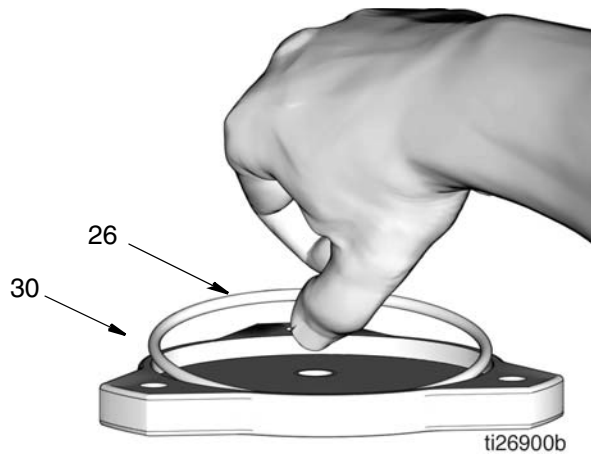

FIG. 59
12. Apply a thin layer of grease to o-ring (26). Install o-ring inside groove in cover (30) as shown in (FIG. 59).